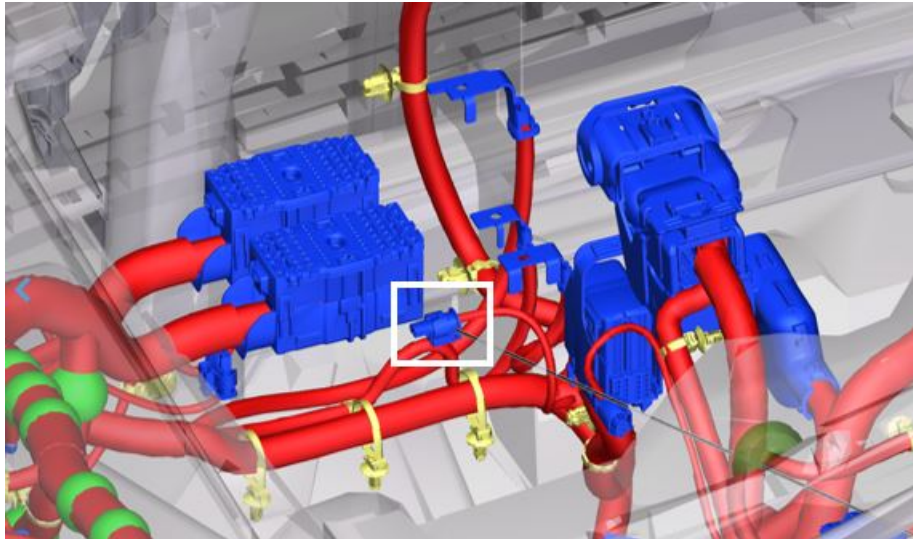

Fig. 1
2. Locate connector D3157A (Fig. 1) .